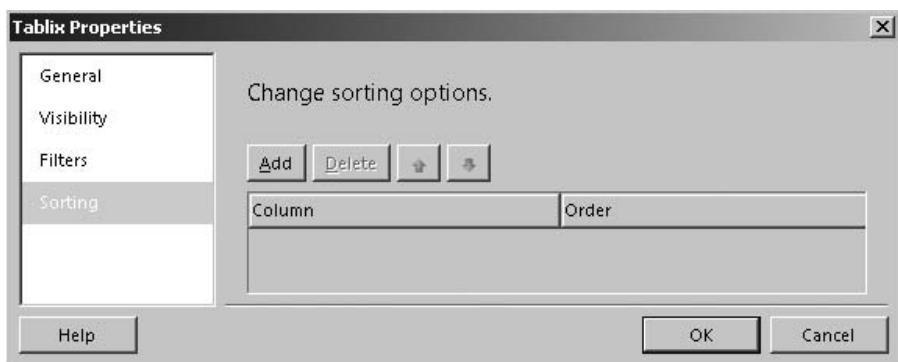

Figure 16-19 The Sorting page of the Tablix Properties dialog box
53. Select the Sorting page. This is shown in Figure 16-19. The Sorting page enables us to specify an expression for sorting the detail rows in the table. Any sorting expression specified here overrides the sort in the SELECT statement. No sorting expression is specified here in this report.
58. Select the Sorting page. This appears similar to the Sorting page of the Tablix Properties dialog box shown in Figure 16-19. This Sorting page enables us to control the sort order of the groups themselves. The detail data within each group is still sorted according to the settings on the Tablix Properties dialog box or, if no sort order is set in the Tablix Properties dialog box, according to the sorting in the database query itself.